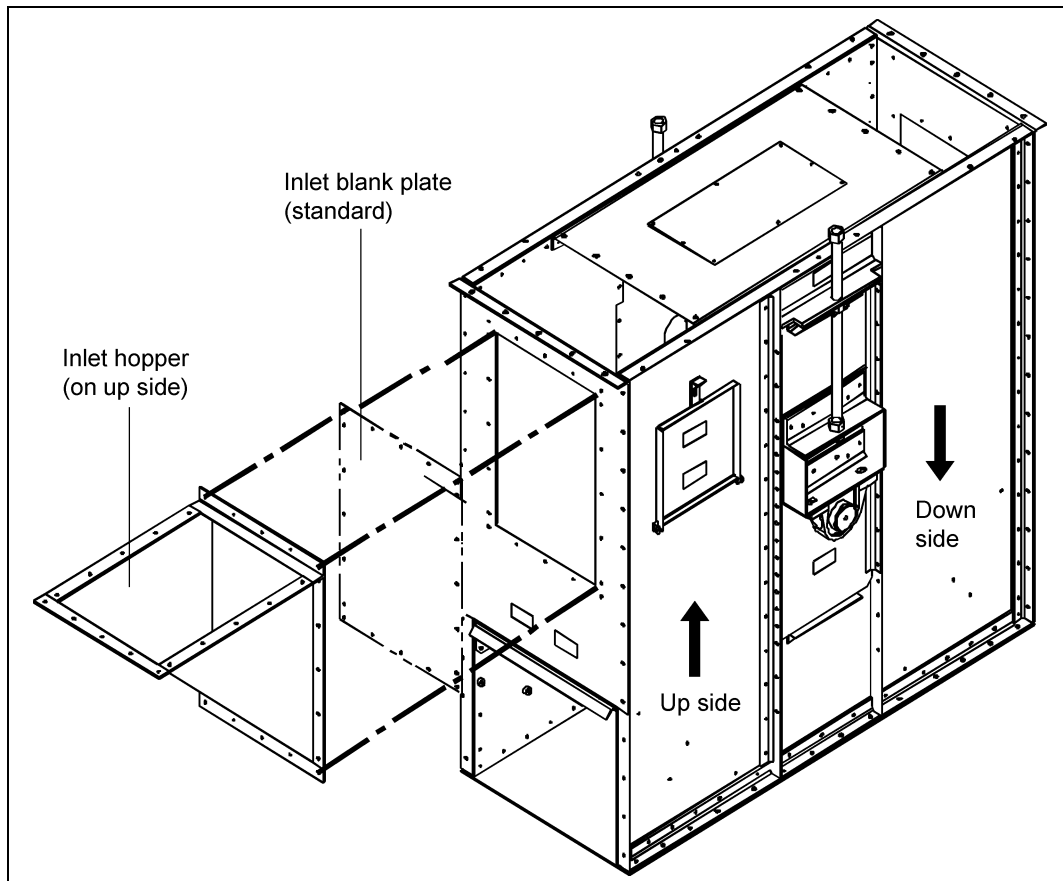

Figure 6A Boot Section
3. Identify the up and down side of boot. (See Figure 6A.)